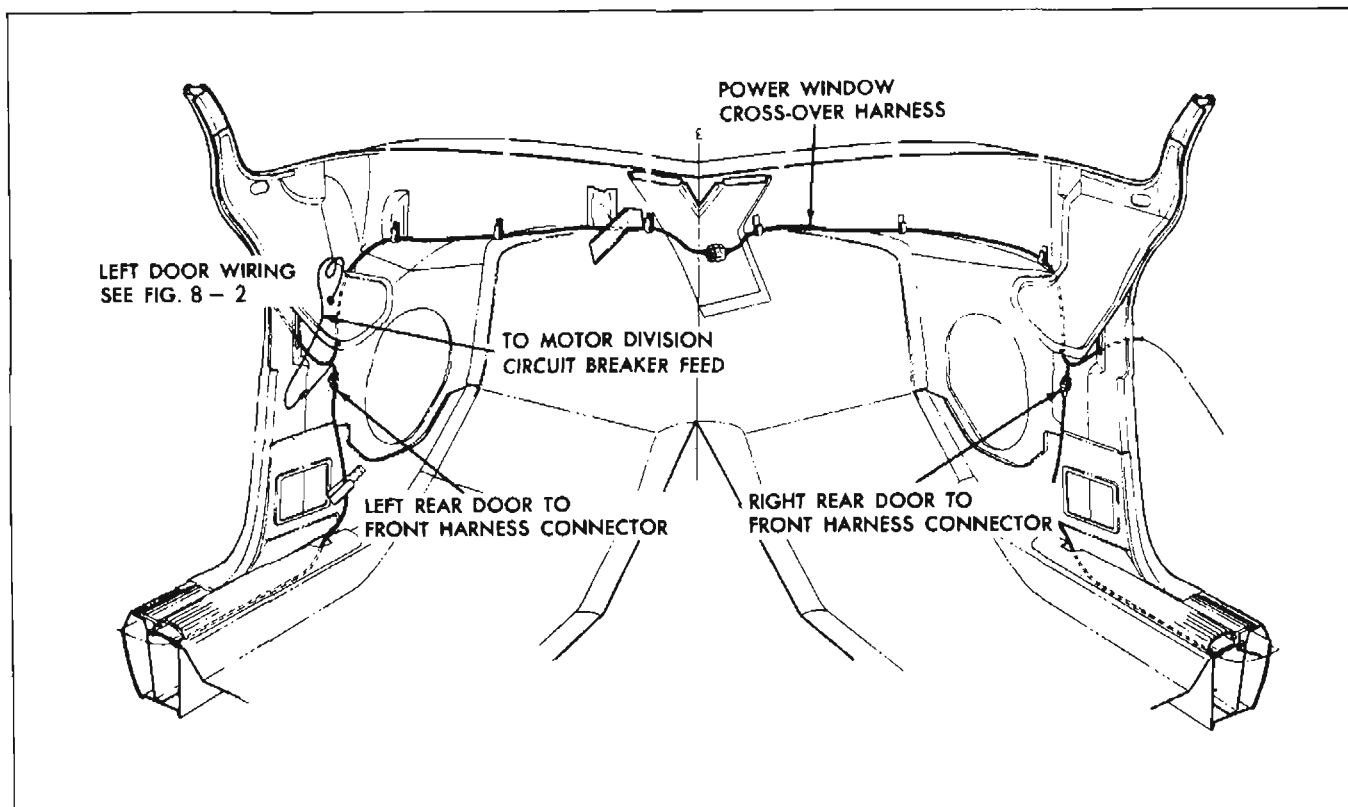

Fig. 8-1 Power Window Wiring Installation
1. **FRONT CROSS-OVER HARNESS**—This harness is installed beneath the instrument panel and completes the circuit from the right door to the left door windows. The front harness also includes the wiring for the front door windows (Fig. 8-1). The multiple connector located at the center of the front harness is used only for manufacturing purposes and is not intended to be disengaged in service.